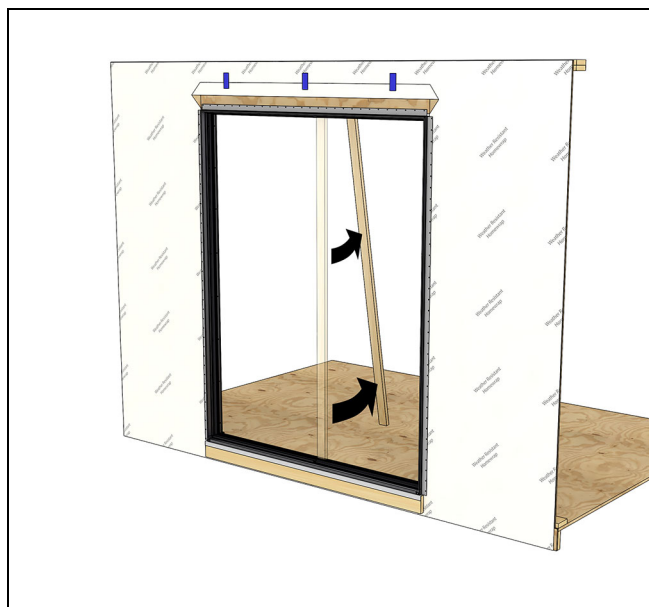

Figure 53
8. Once the head jamb is fastened, remove the story pole. See Figure 53.